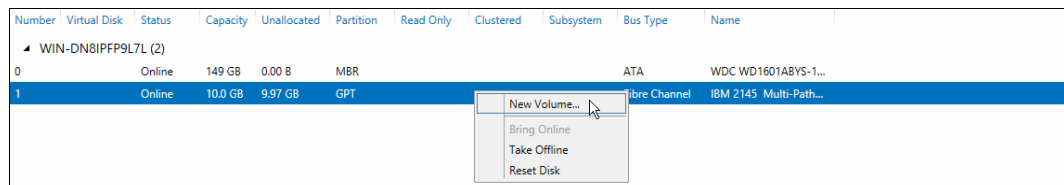

Figure 5-37 Creating a new file system on a disk
- In the Disks view in **File and Storage Services**, right-click the disk and click **New Volume**, as shown in Figure 5-37.